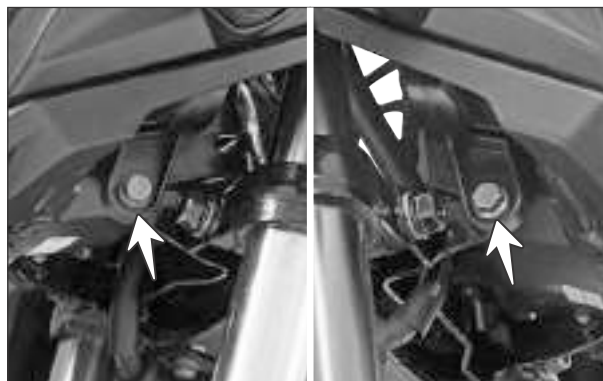

Fig. 2.78
- ! Loosen both side bottom mounting hexagonal flange bolt of housing head lamp and tilt the housing head lamp forward. (Fig. 2.78)